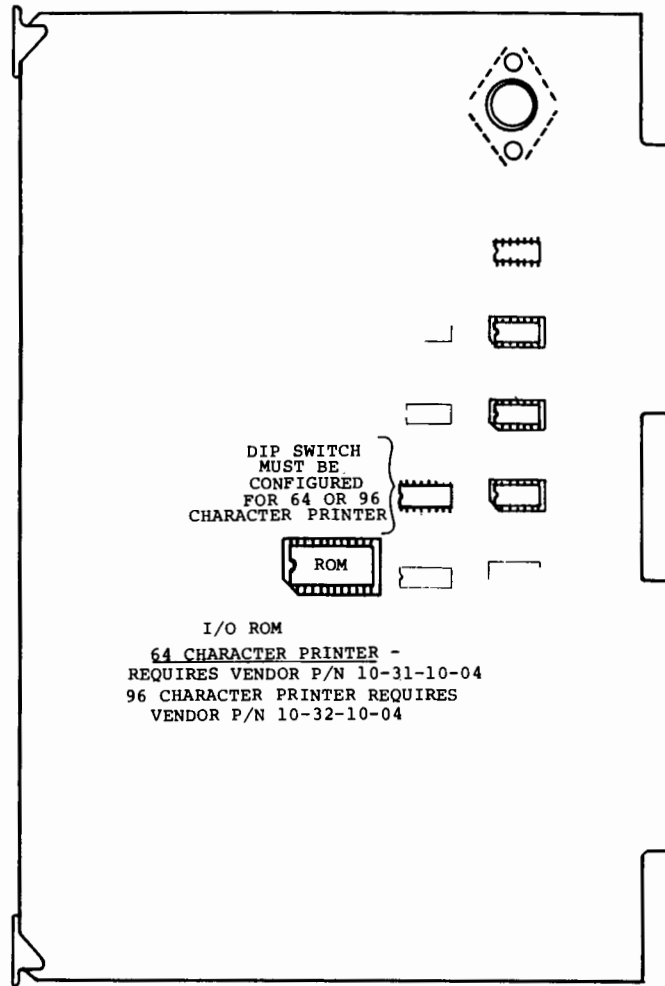

FIGURE 2 I/O PCBA
- a. Install 64 character ROM (HP P/N 1535-3941 or vendor P/N 10-031-10-04) in 24 pin socket. See figure 2 for location and orientation.
- b. Configure dip switch as follows. See figure 2 for location.
- a. Install 96 character ROM (HP P/N 1535-3982 or vendor P/N 10-032-10-04) in 24 pin socket. See figure 2 for location and orientation.